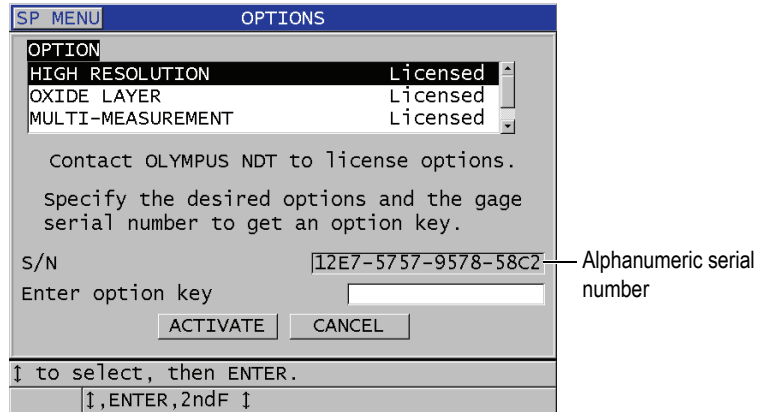

Figure 7-1 The OPTIONS screen to activate software options
3. In the **OPTIONS** screen (see Figure 7-1 on page 88), note the 16-digit alphanumeric serial number appearing in the **S/N** field.
5. In the **OPTIONS** screen (see Figure 7-1 on page 88):